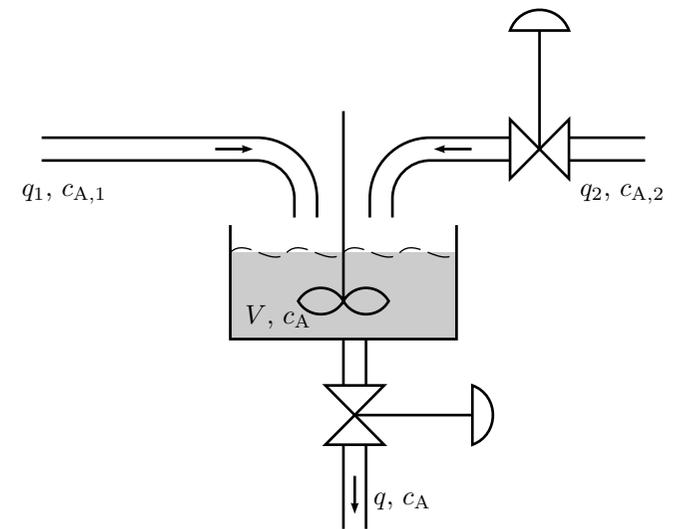

Figure 2.12a
2.12 Two flows with different concentrations of a chemical component A are mixed in a continuously stirred tank, see Figure 2.12a. The volume can be assumed constant, $V = 1 \text{ m}^3$.